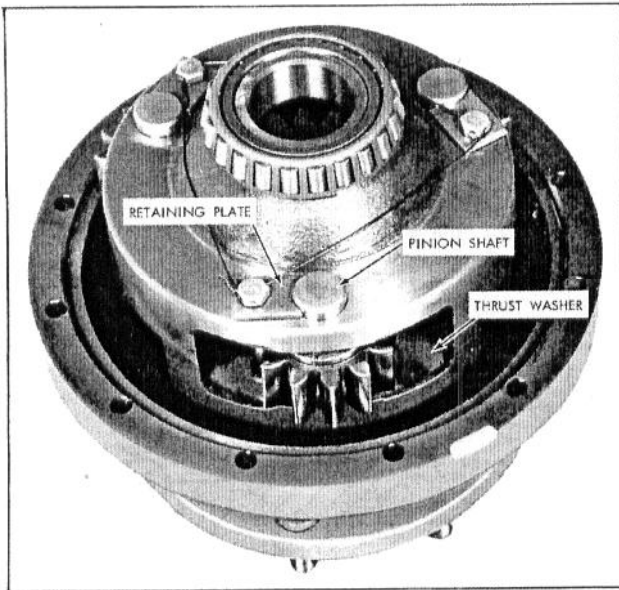

Fig. 40 - Axle Planetary Assembly - Narrow Ring Gear
2. Remove the planetary pinion from the large opening of the planetary carrier. Refer to Fig. 40.